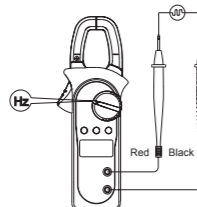

Figure 7
E. Measuring Frequency (See Figure 7)